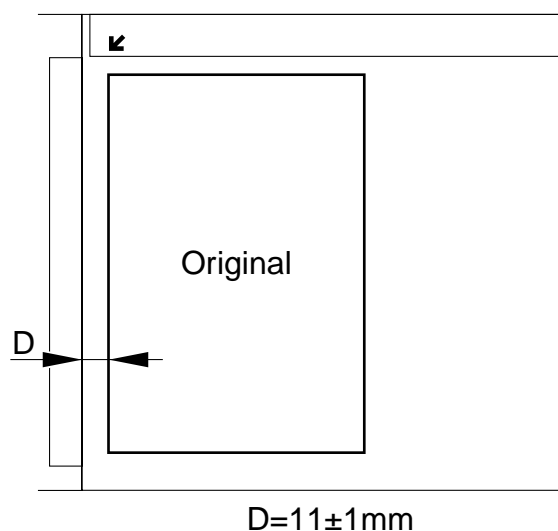

Figure 5-155
- 5) Open the ADF slowly, and check to make sure that D indicated in Figure 5-155 is 11 ± 1 mm. Then, close the ADF slowly.